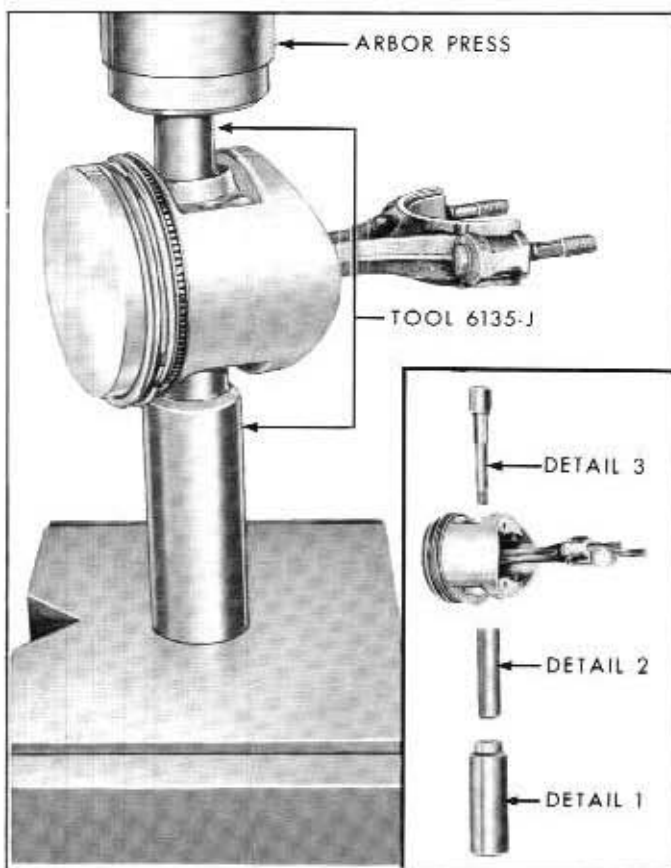

Fig. 6A-46—Piston Pin Installation—(60C-5647)
- b. Apply a light coat of engine oil to all parts. Assemble the piston to the connecting rod with oil squirt hole in the connecting rod and the indentation in the piston facing as shown in figure 6A-26.
- c. Start the piston pin in the piston and connecting rod. With the long pilot (detail 2) entering first, press the piston pin through the piston and connecting rod until detail 2 is seated firmly in detail 1. See figure 6A-46.